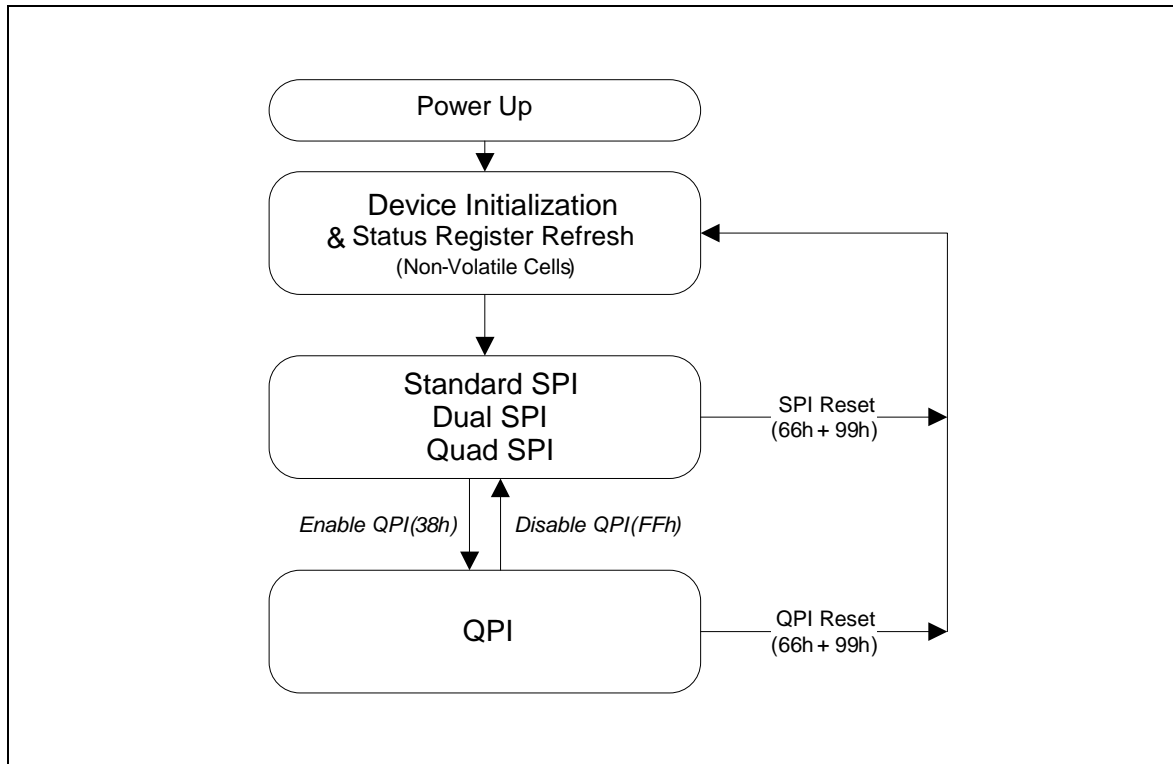

Figure 3. W25Q40EW Serial Flash Memory Operation Diagram
The W25Q40EW supports Quad Peripheral Interface (QPI) operations only when the device is switched from Standard/Dual/Quad SPI mode to QPI mode using the “Enter QPI (38h)” instruction. The typical SPI protocol requires that the byte-long instruction code being shifted into the device only via DI pin in eight serial clocks. The QPI mode utilizes all four IO pins to input the instruction code, thus only two serial clocks are required. This can significantly reduce the SPI instruction overhead and improve system performance in an XIP environment. Standard/Dual/Quad SPI mode and QPI mode are exclusive. Only one mode can be active at any given time. “Enter QPI (38h)” and “Exit QPI (FFh)” instructions are used to switch between these two modes. Upon power-up or after a software reset using “Reset (99h)” instruction, the default state of the device is Standard/Dual/Quad SPI mode. To enable QPI mode, the non-volatile Quad Enable bit (QE) in Status Register-2 is required to be set. When using QPI instructions, the DI and DO pins become bidirectional IO0 and IO1, and the /WP and /HOLD pins become IO2 and IO3 respectively. See Figure 3 for the device operation modes.